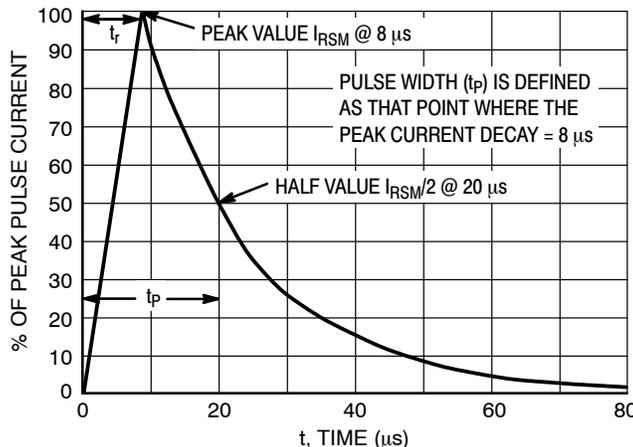

Figure 7. 8 x 20  $\mu$ s Pulse Waveform
- Surge current waveform per Figure 7.